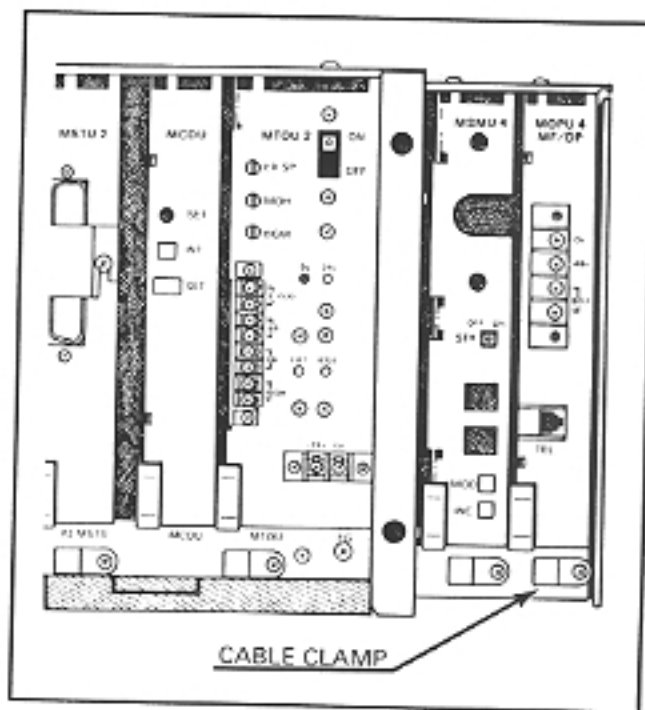

FIGURE 26—MOPU WIRING CLAMP
07.45 Secure the station and power wires to the KBXU shelf using the provided cable clamp (Figure 26).
07.65 Route the printer cable out of the KBXU and connect it to the printer or recording device. Secure the cable to the KBXU shelf using the provided cable clamp (Figure 26).